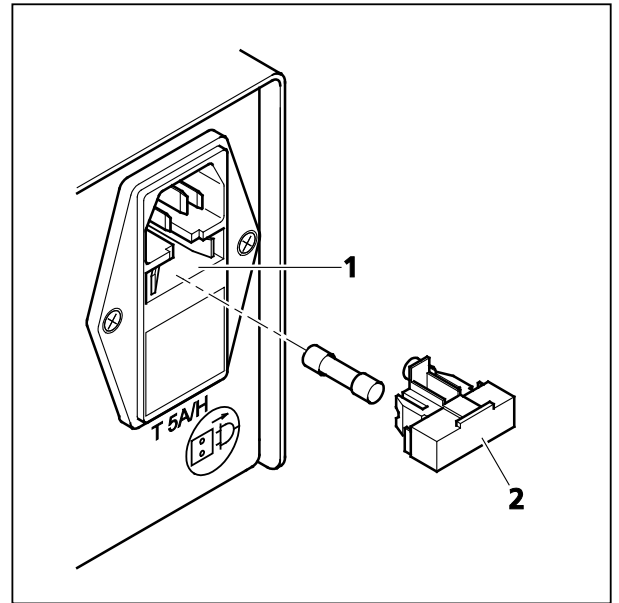

Figure 5-1 Replacing fuses, e.g., at the 12 V DC 100 W external power supply unit
- Pull out the fuse holder (Figure 5-1/2) towards the front side, and take it completely out of the fuse box (Figure 5-1/1).